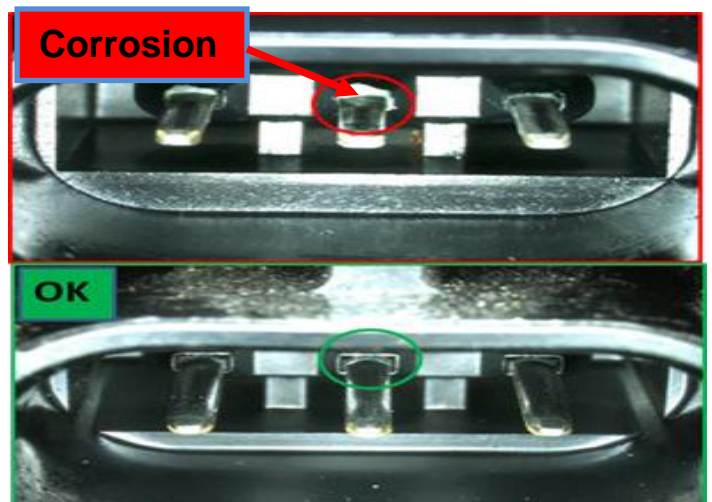

Figure 3
- Is corrosion found on output speed sensor terminals? (see Figure 3)